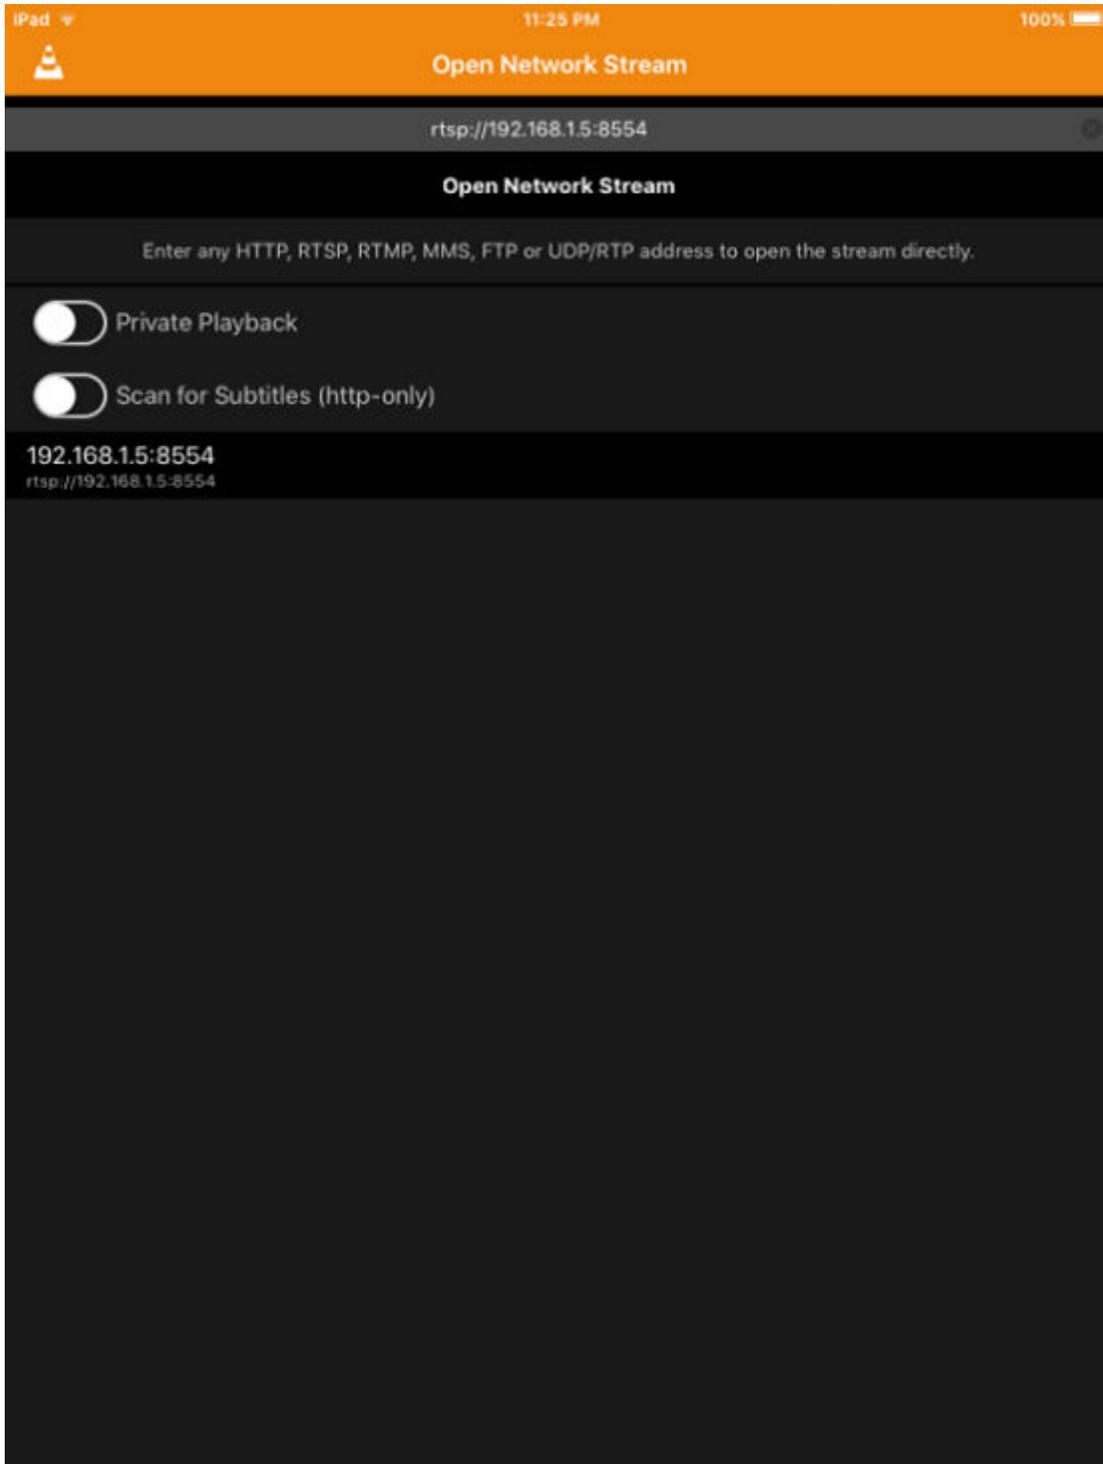

Figure 3-10. Enter Network URL
- For the Network URL, enter "rtsp://<local IP address>:8554", as shown in Figure 3-10.